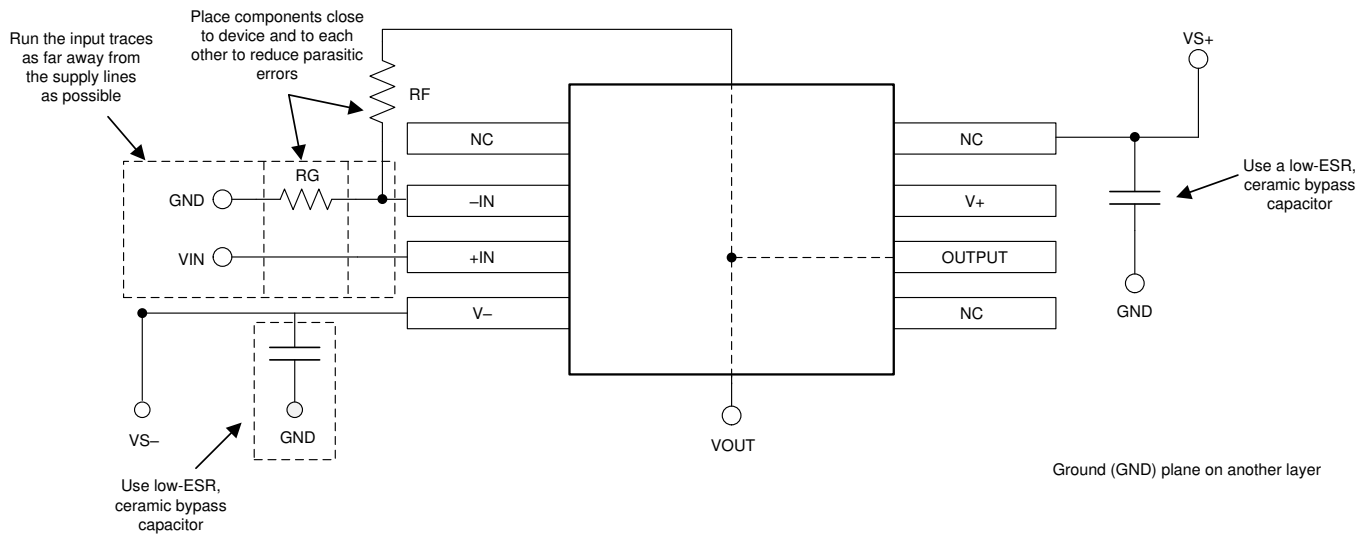

Figure 56. Operational Amplifier Board Layout for Noninverting Configuration
- Place the external components as close to the device as possible. As illustrated in Figure 56, keeping R_F and R_G close to the inverting input minimizes parasitic capacitance.